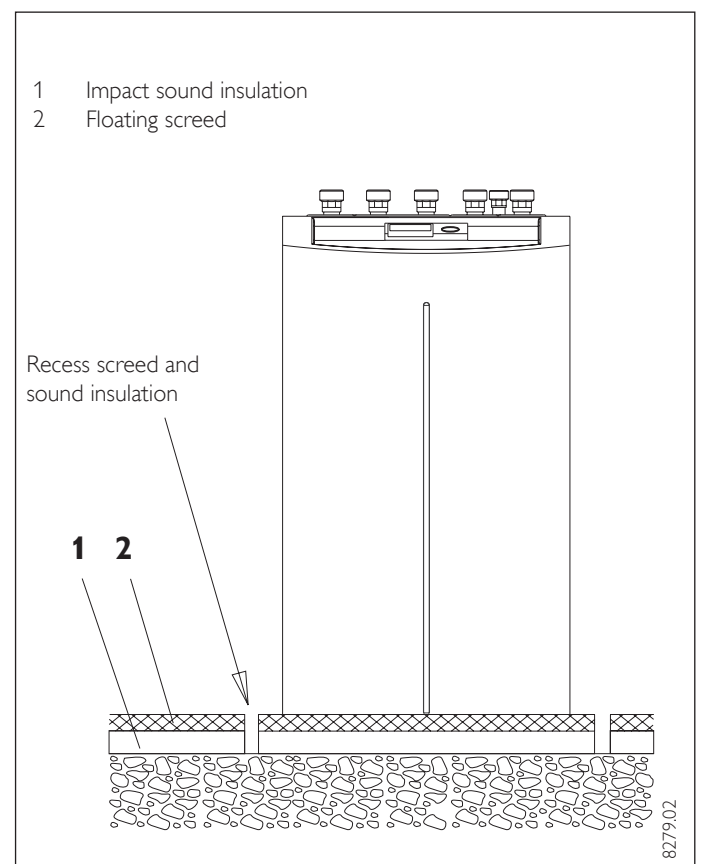

Fig. 12
- For quiet operation on floating screeds, remove the screed and the anti-vibration insulation around the installation location of the heat pump (Fig. 12).